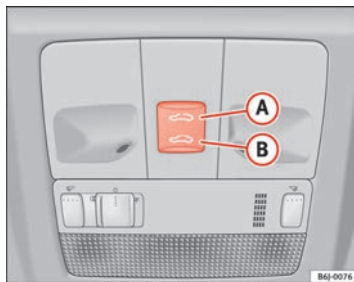

Fig. 51 Panorama/tilting sunroof
- Press and hold button **(B)** ⇒ fig. 51 ⇒ . The roof starts to close until the button is released.